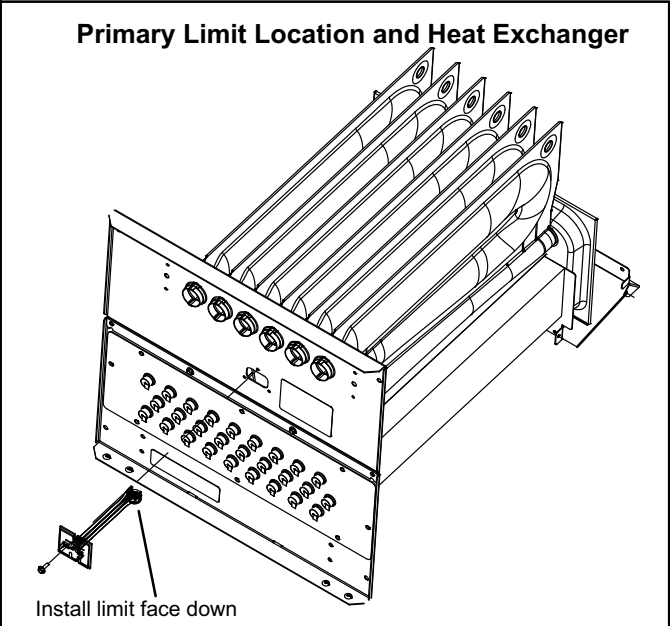

FIGURE 12
4. Primary Limit Control (Figure 12)
5. Heat Exchanger (Figure 12)